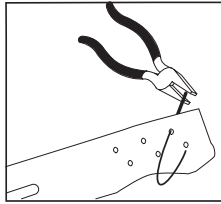

Figure 1
1. Insert a piece of line through the outermost hole. Pull it through, using pliers if necessary, so that about 1/3 extends from the underside of the blade. See Figure 1